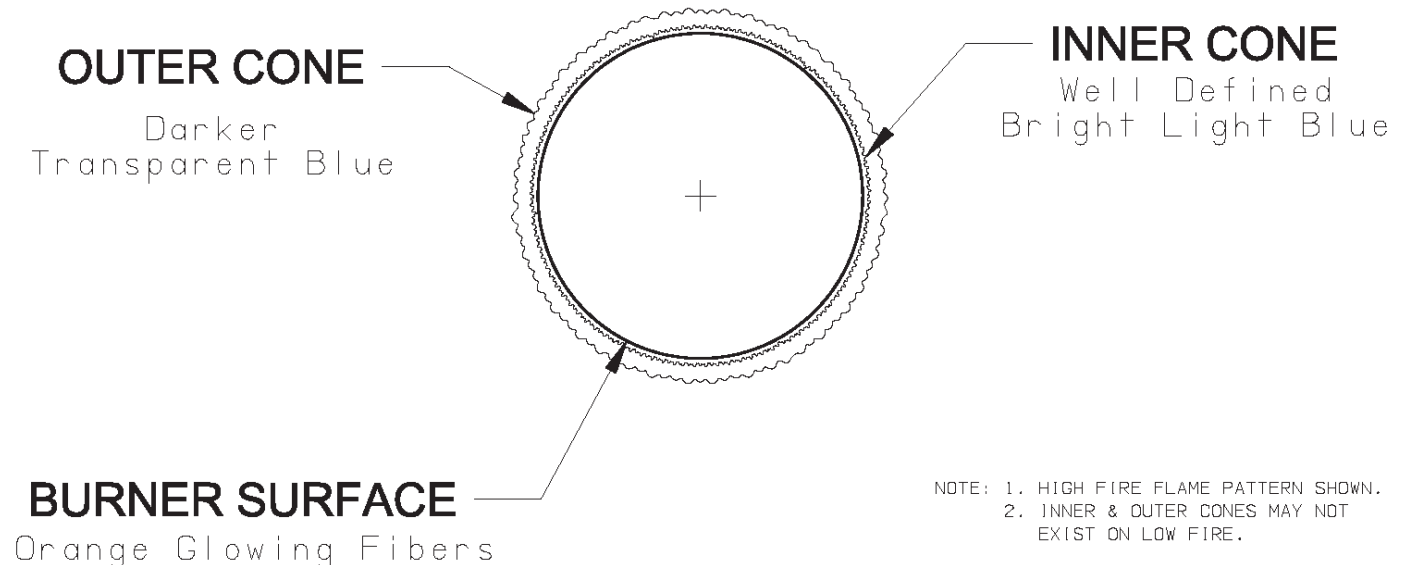

Figure 3: Burner Flame
4. Check burner flames. See Figure 3. On high fire the flame should be stable and mostly blue. No true yellow tipping should be present, however intermittent flecks of yellow and orange in the flame, caused by dust in air, are normal.